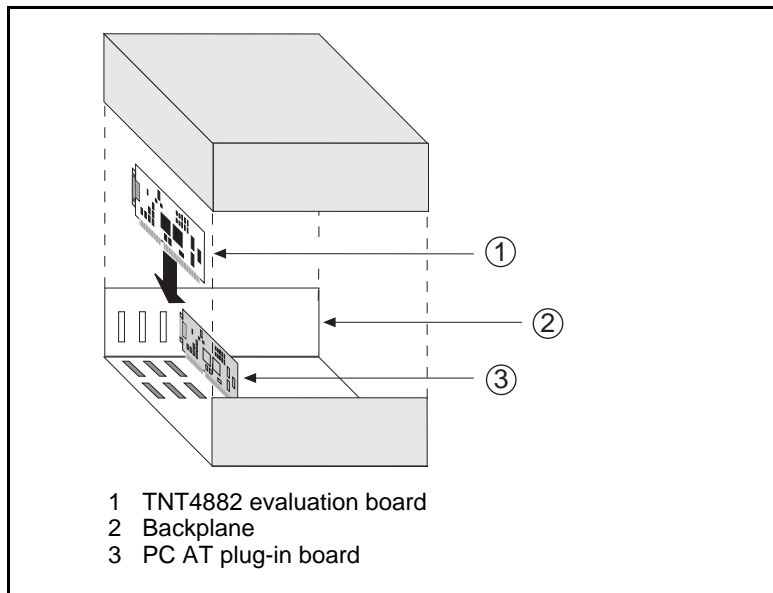

Figure 2-1. Installing the TNT4882 Evaluation Board
| Figure 2-1. | Installing the TNT4882 Evaluation Board | 2-2 |
4. Insert the TNT4882 evaluation board into any unused slot with the GPIB connector sticking out of the opening on the back panel, as shown in Figure 2-1. It may be a tight fit, but do not force the board into place.